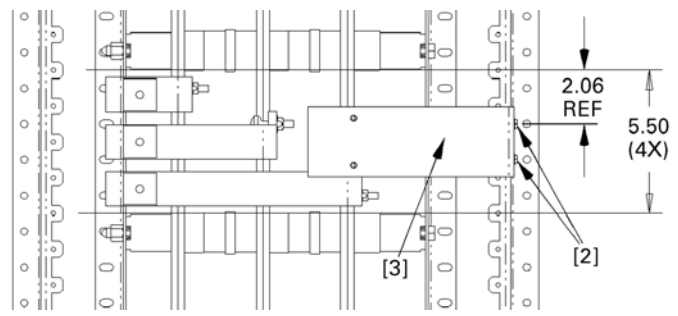
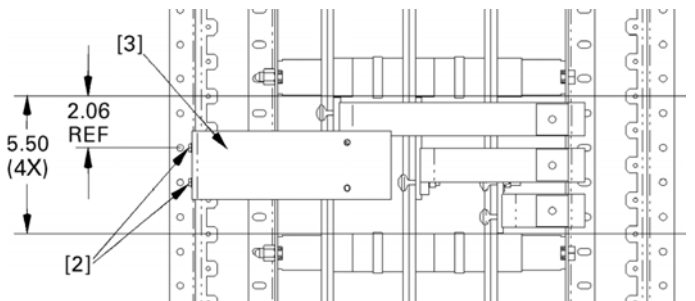

Figure 29. Installing the breaker mounting bracket for cable connections on the same side as the 2.75" reference dimension.
Figure 31. Installing the breaker mounting bracket for cable connections opposite the 2.75" reference dimension.
6. Install the circuit breaker mounting bracket. Secure the breaker mounting bracket [3] to the panel side rail with thread-forming screws [2]. Figures 29 and 30 show the installation for cable connections on the same side as the the 2.75" reference dimension. Figures 31 and 32 show the installation for cable connections on the opposite side from the 2.75" reference dimension. Tighten the thread-forming screws to 30 in-lb.